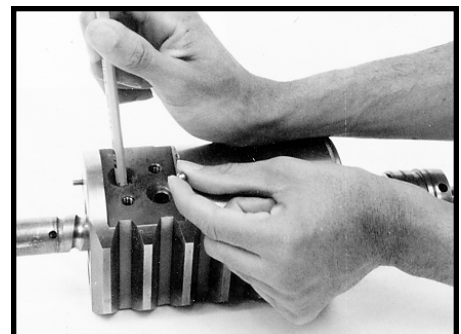

Figure 110
8. For ball return guides which do not have the hole in top, follow this procedure. Insert the eraser end of a pencil into one ball return guide hole of the rack piston as far as it will go. Drop 22 balls (of the 34 total) into the other ball return guide hole of the rack piston. SEE FIGURE 110. Turn the worm shaft/input shaft (16) to advance the balls toward the other hole. You will feel resistance at the pencil after you drop the 22nd ball. At this time, a ball will be visible at the base of each hole. Remove the pencil.